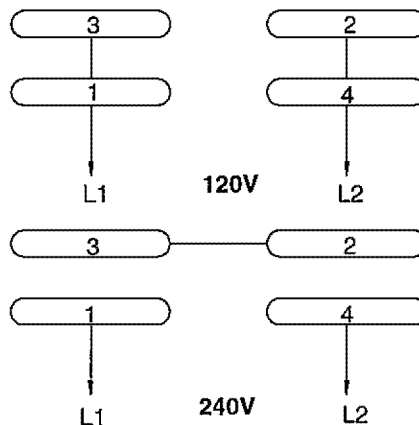

Figure 42 - Wiring Schematic
- See wiring diagram (Figure 42) for wiring instructions.